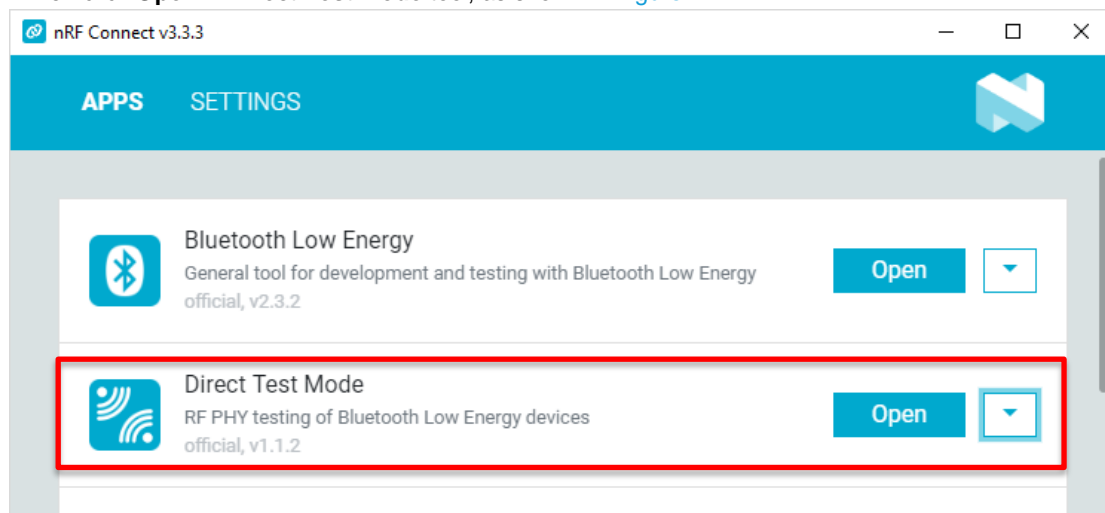

Figure 4: Click Open in Direct Test Mode
2. Then click **Open** in **Direct Test Mode** tool, as shown in Figure 4.